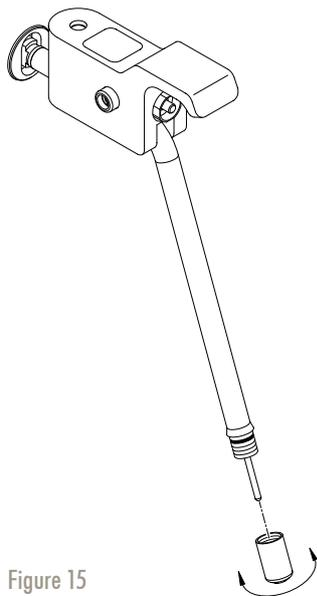

Figure 15
2. Unscrew the steam nozzle from the steam pipe (Fig. 15) and place it into the jug.
8. Finally, screw the steam nozzle back to the steam outlet (Fig. 15)